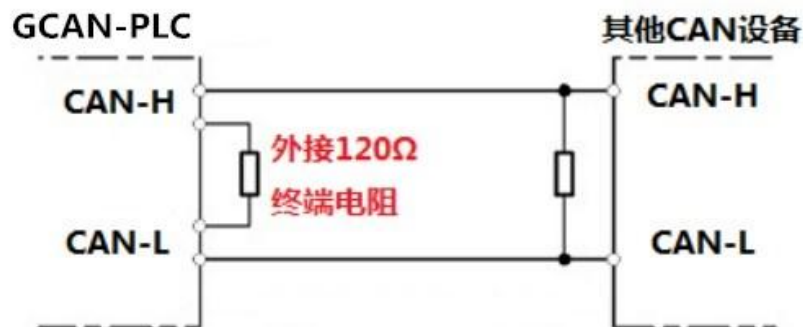

Figure 3.2 GCAN-GT-412 connected with other CAN node devices
In order to enhance the reliability of CAN communication and eliminate CAN bus terminal signal reflection interference, the two farthest endpoints of the CAN bus network usually need to add terminal matching resistors, as shown in Figure 3.2. The value of the termination matching resistance is determined by the characteristic impedance of the transmission cable. For example, the characteristic impedance of the twisted pair is  $120\Omega$ , then the two end points on the bus should also integrate  $120\Omega$  termination resistance. If other nodes on the network use different transceivers, the termination resistance must be calculated separately.
**Please note: GCAN-GT-412's CAN bus does not integrate a  $120\Omega$  termination resistor. If the number of nodes is greater than 2, the intermediate node does not need to install a  $120\Omega$  termination resistor. When needed, connect the two ends of the resistor to CAN\_H and CAN\_L, as shown in Figure 3.2.**